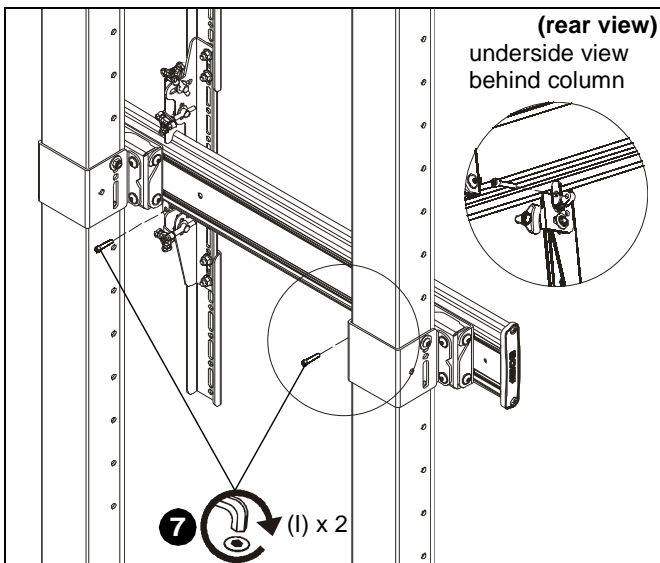

Figure 11
- 6. Hang interface brackets (S and T) to single display rail (R). (See Figure 11)
- 7. Use 1/4-20 x 1 1/4" socket head cap screws (I) to secure interface brackets (S and T) to rails for each display. Screws must engage through both holes to be fully secured. (See Figure 11)